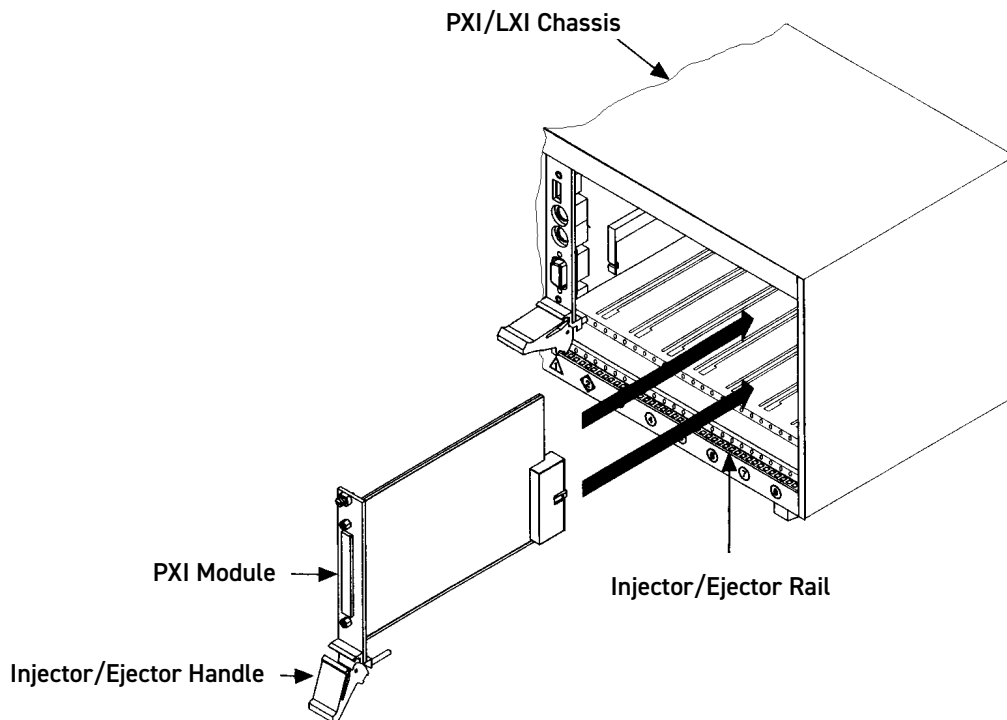

Figure 3.1 - Installing the Module into a PXI/cPCI/LXI Chassis
5. Hold the handle whilst slowly sliding the module into the card guides until the handle catches on the injector/ejector rail (refer to Figure 3.1).